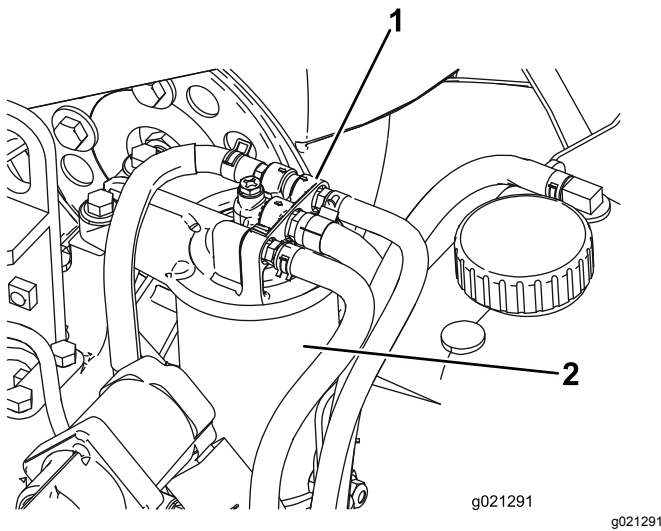

Figure 59
1. Clean the area around the fuel-filter head (Figure 59).
2. Remove the filter and clean the filter head mounting surface (Figure 59).